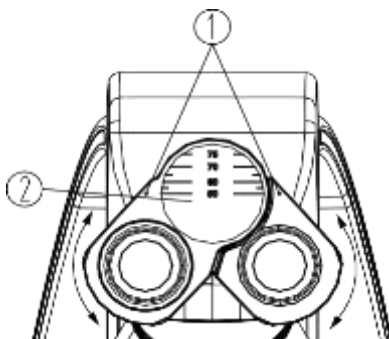

Fig.12
When using two eyes to observe, hold the bases of the prism and rotate them around the axis to adjust the interpupillary distance, until there is only one field of view. The dot “.” ① on the eyepiece base points to the scale ② of the interpupillary distance indicator. The scale value is the interpupillary distance (See Fig. 12).